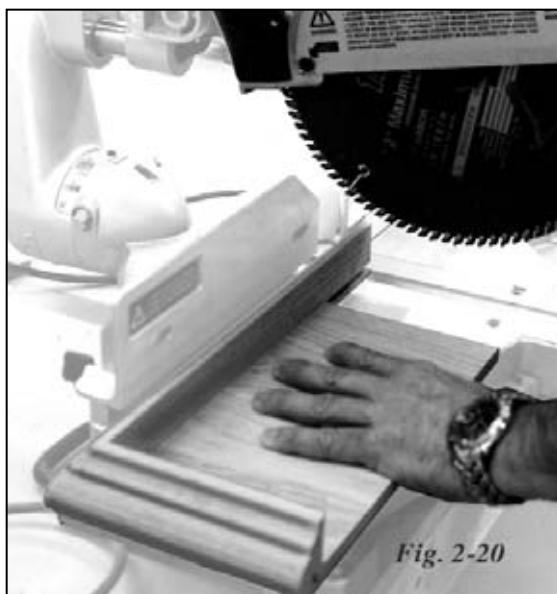

Fig. 2-20
10. Make a square cut on the end of the “tail” portion of the false tread cap molding leaving it as long as possible. Please note Fig. 2-20 here.